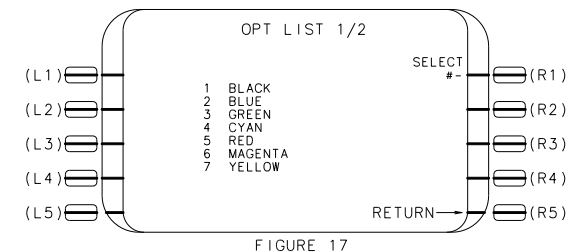

FIGURE 17
- THE OPTS LIST PAGE WILL APPEAR (REF FIGURE 17). SELECT THE REQUIRED COLOR BY ENTERING THE APPROPRIATE NUMBER INTO THE NUMERIC KEYPAD AND PRESS ENTER.